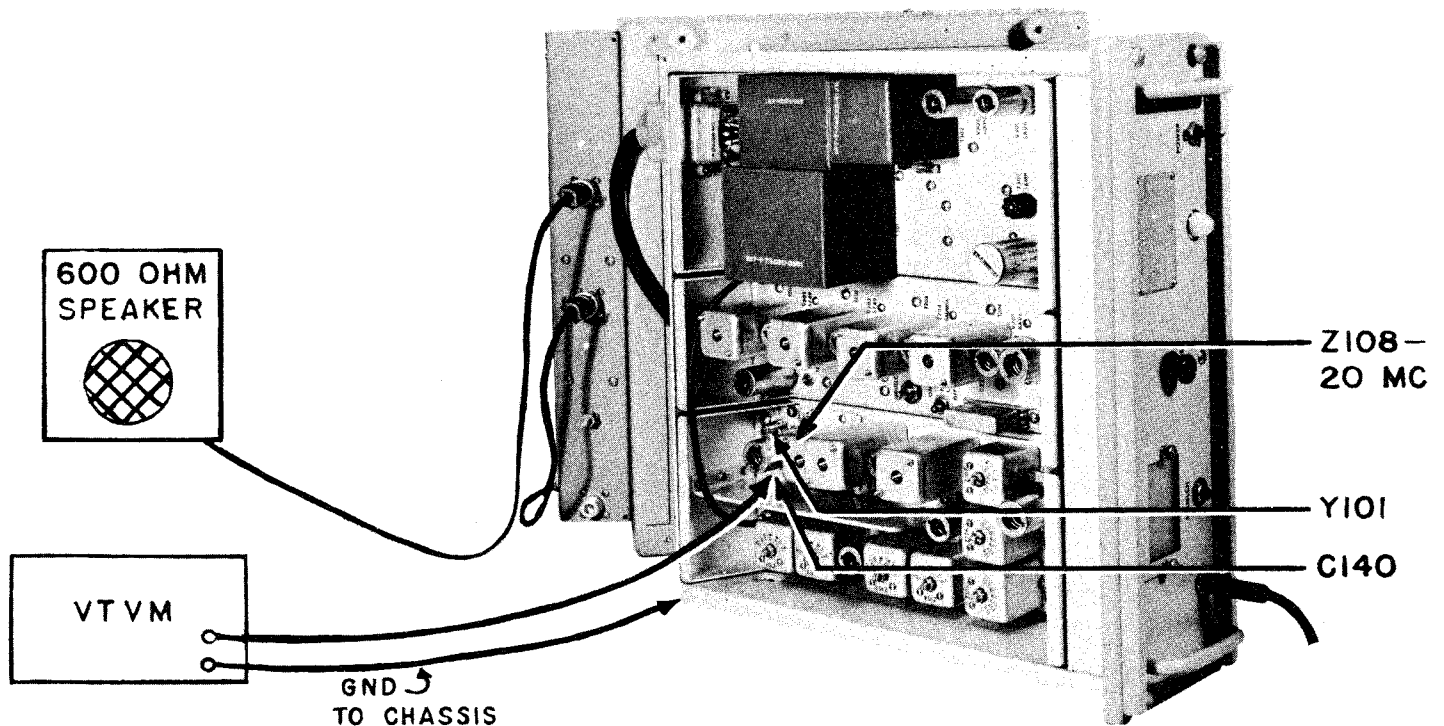

Figure 7-5. Alignment Set-up, 20 MC Oscillator
- (2) Peak 20 Mc oscillator. (See figure 7-5.)
(1) Determine that the 20 Mc crystal Y101 is firmly seated in its socket.
(2) Connect the vacuum tube voltmeter, as indicated in figure 7-5, and proceed with alignment as outlined in table 7-3.